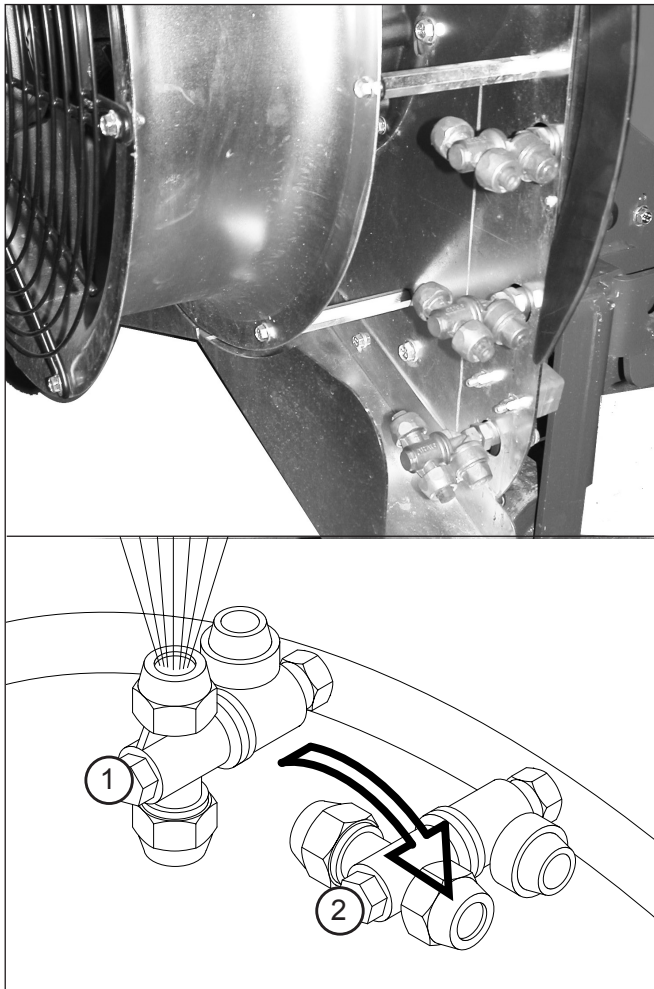

Fig. 7 - Ugelli
The nozzles installed in the atomizer are of the double head type (Fig. 7). It is possible to install other types of nozzles by consulting the Technical Dept. of the Manufacturer. The nozzles are 12 (6 per side), are equipped with an anti-drip membrane and the manufacture material is brass for pressures up to 40 bars.
- 1) **SPRAYING PHASE:** if the nozzle is facing the outside of the fan group and is parallel to the anti-drip valve (1 Fig. 7);
- 2) **CLOSING PHASE:** if the nozzle is turned at 90° and faces the inside of the fan group (2 Fig. 7);